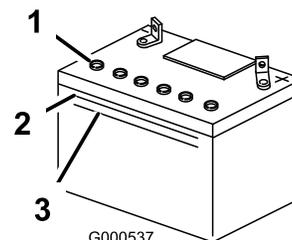

Figure 1
4. Remove the vent caps from the battery (Figure 1). Slowly pour electrolyte into each battery cell until the electrolyte level is up to the Upper line on the battery case (Figure 1).
5. Wait five to ten minutes after filling the battery cells. Add electrolyte, if necessary, until the electrolyte level is up to the Upper line (Figure 1) on the battery case.